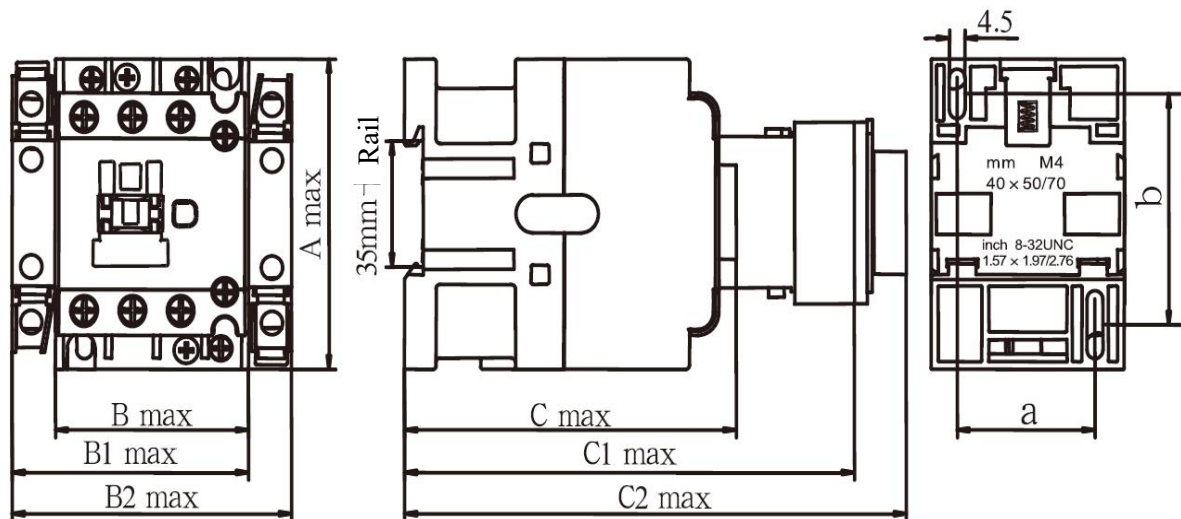
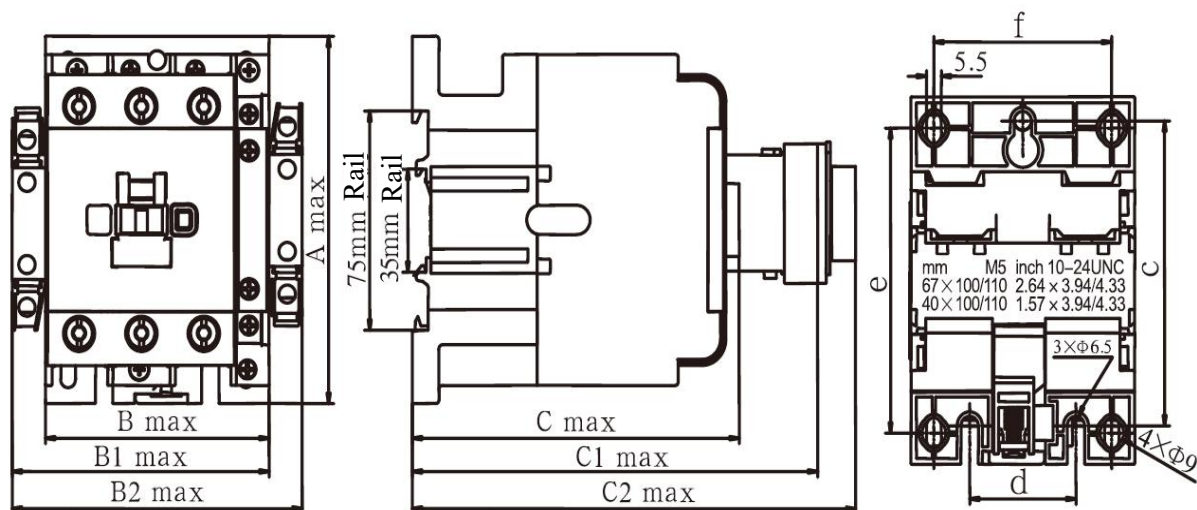

Figure 5 CJX2s(K)-06~38
Figure 6 CJX2s(K)-40~95
- Contactor outline and installation size in Figure 5, Figure 6 and Table 3